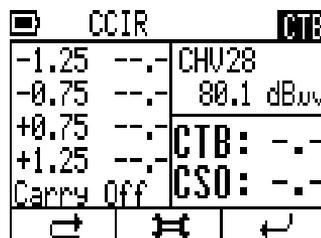

Figure 3
2. Connect the measurement signal under the image carrier measurement mode (Figure 1), electrical value of the measure signal is greater than 50dbuv, enters a wait state of disconnecting the carrier state (Figure 3)